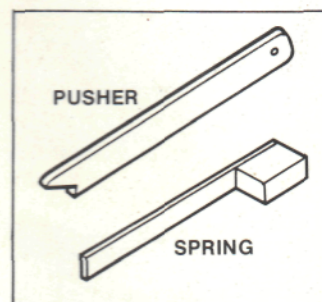

Fig. 41
1. Use a notched "push-stick" (Fig. 33 and see drawing in Fig. 41) to feed the wood through the blade and hold it down at the same time, thereby keeping your hands at a safe distance from the blade.
IMPORTANT: Use a piece of waste wood as a pusher (Fig. 41) to make sure your hand keeps a safe distance from the knives.
- (ii) If wider rebates are required, then a Dado Head should be fitted (see separate instructions) but the guard used should be that intended for the Shaping Head. The operation, using the Dado Head in this way, is the same as with the Shaping Head (Fig. 44). Note the use of home-made wooden springs to help in ensuring the timber is held firmly against the fence while cutting progresses (see Fig. 41).